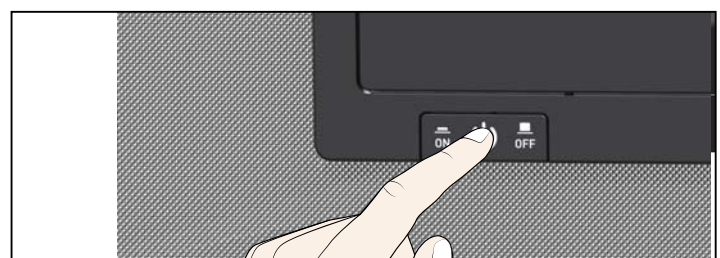

Fig. 17 Switch off appliance
3. Switch off the appliance with the main switch (Fig. 17).